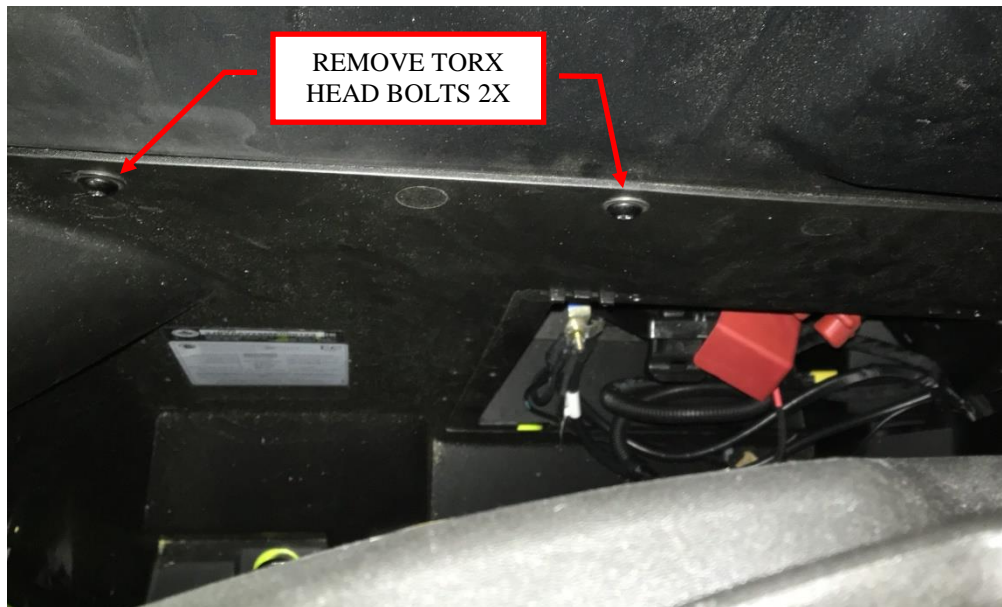

Figure 8: Remove torx bolts in rear firewall.
7. To get the relay block and ring terminals through the rear seat firewall, remove the bolts from the inside of the rear firewall (behind the rear passenger seat) as shown in Figure 8. Carefully spread the panels to slide the relay and ring terminals through the firewall. Replace the bolts once the harness is in position and through the opening in the firewall.